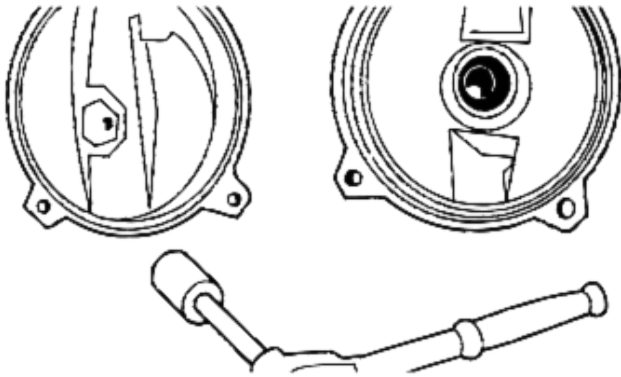

Figure 23: Remove Nozzle
8. Nozzle on 1/2 HP models can be removed from pump case with any standard 1-1/4" socket wrench with an extension (Figure 23). On 3/4 and 1 HP models venturi tube and nozzle can be removed in same manner using 27/32" socket for the venturi and 9/16" socket with extension for nozzle.